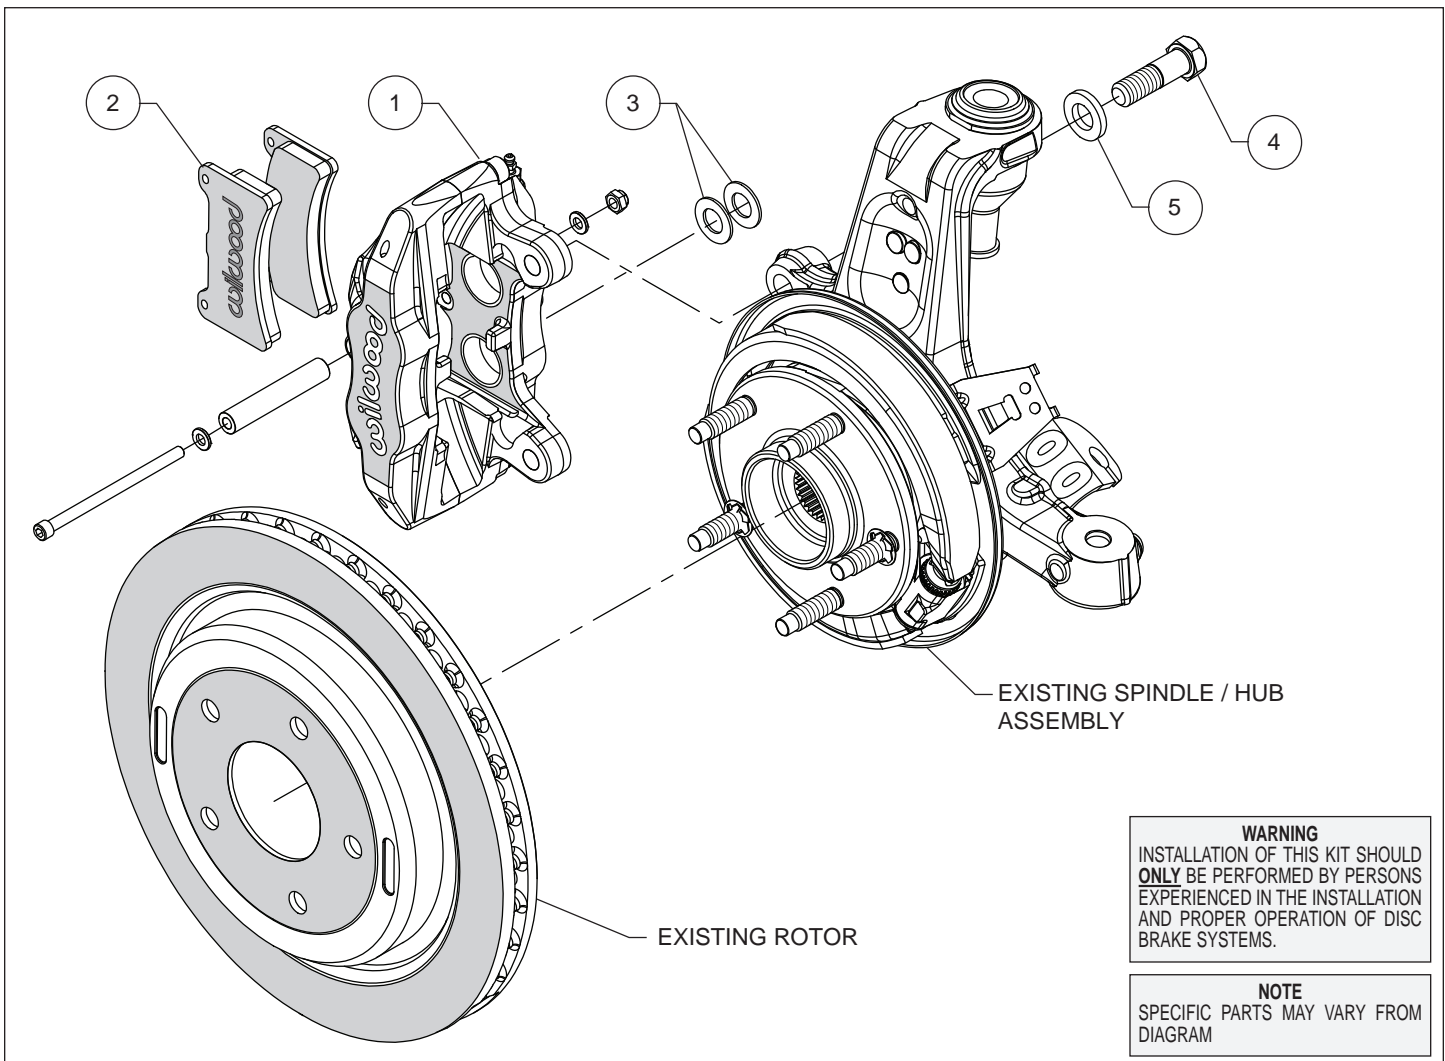

Figure 1. Typical Installation Configuration
**Assembly Instructions** (numbers in parenthesis refer to the parts list and Figure 1 on the preceding page): **CAUTION:** All mounting bolts must fully engage threaded holes.
- Install the Wilwood DPC56 caliper (1) in the exact position as the original caliper, Photo 1. Secure the caliper to the OE mounting tabs using bolts (4) and washers (5). Apply *Loctite*® 271 on the bolt threads and torque to manufacturer's specifications.
- Remove the caliper center bridge pad retainer bolt, nut, and tube from the caliper. Insert the brake pads (2) into the caliper, with the friction material facing the rotor, Photo 2. Secure the brake pads in place with the center bridge pad retainer tube, bolt, and locknut, Photo 3. The locknut should be snug without play in the bolt or tube. Be cautious not to over tighten.